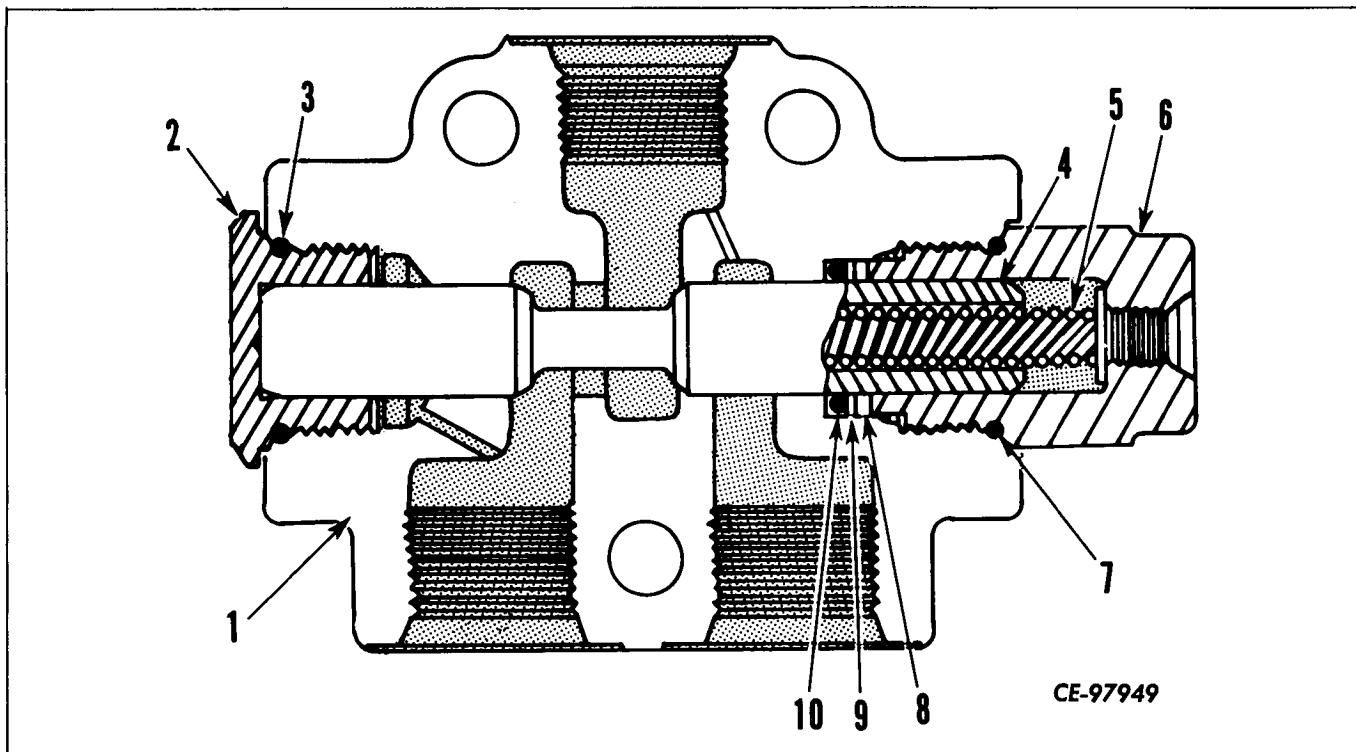

Figure 11-20
Remove plug (6, Fig. 11-20) from end of valve and discard "O" ring (7). Remove spring (5).
Install a new "O" ring (3, Fig. 11-20) on plug (2). Install and tighten plug (2).